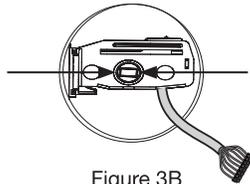

Figure 3B
**NOTE: Wire harness goes under bolt (Fig. 3B).**